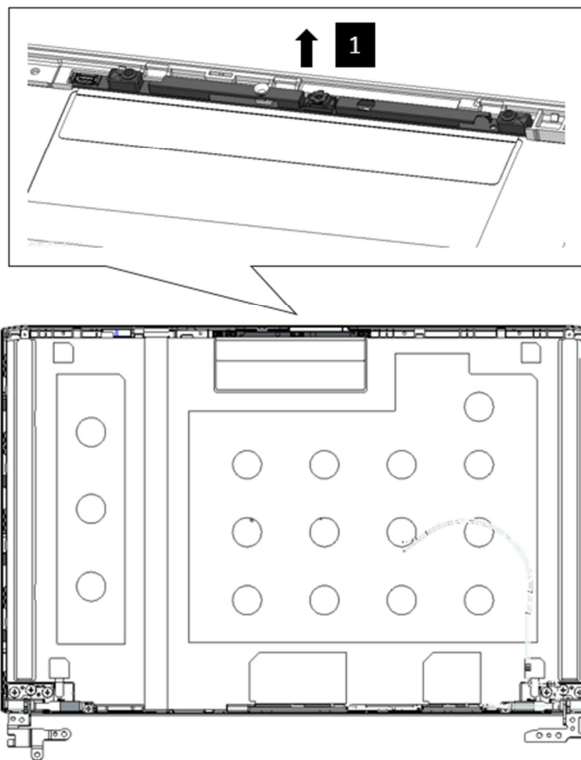

Figure 4-28 Removing the Camera Module
Remove the camera module according to the following procedures and Figure 4-28.
3. Seat and adhere the Camera in the correct position on the LCD cover assembly as shown in Figure 4-28.